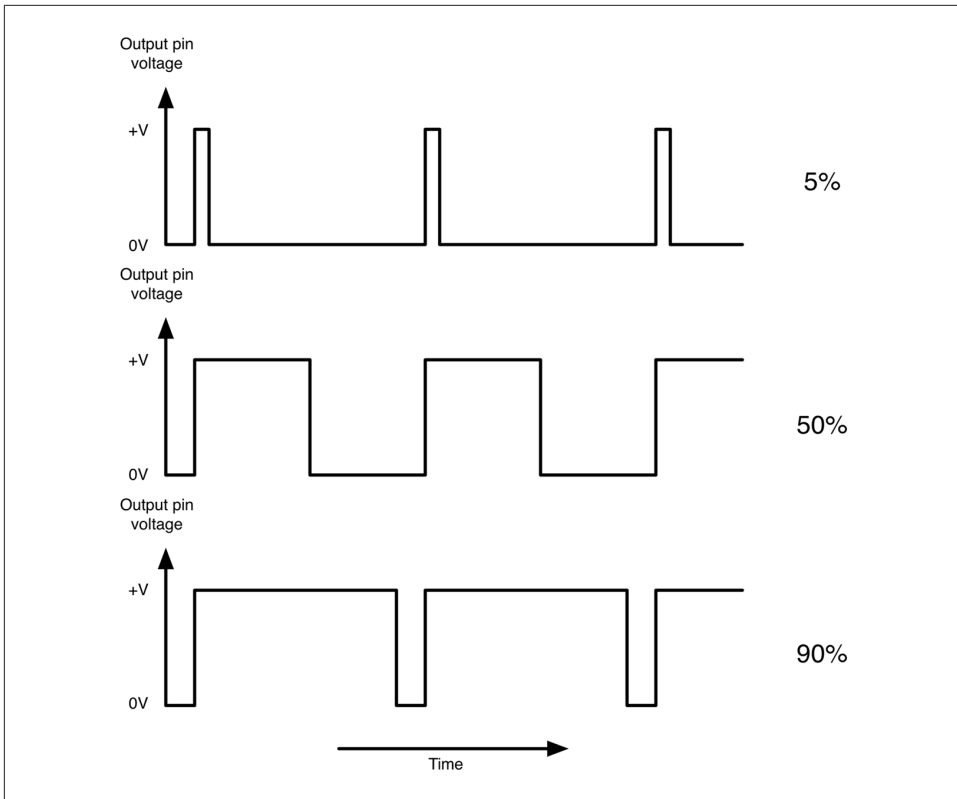

Figure 10-12. Pulse-Width Modulation
**Figure 10-12** shows what is really going on.